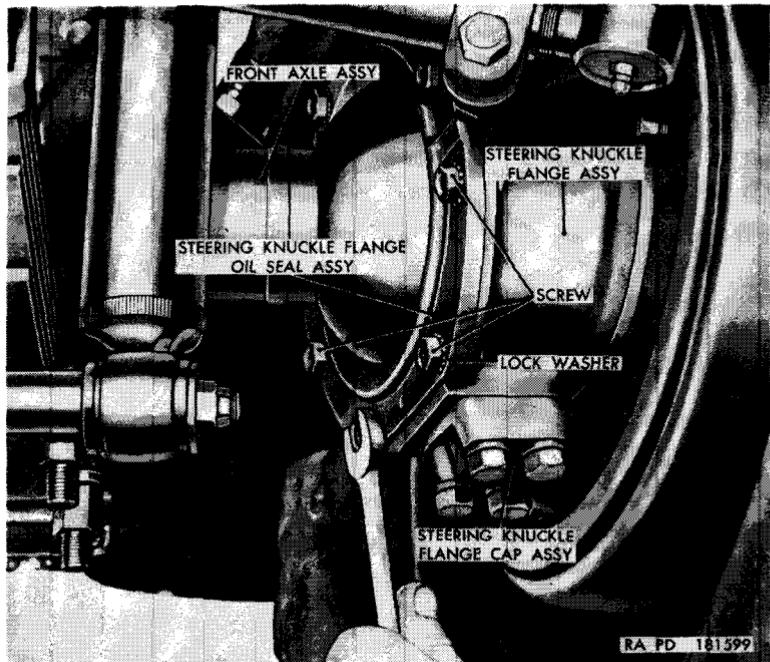

Figure 103. Removing steering knuckle flange oil seal.
a. Removal (fig. 103). Place a jack under the front axle and raise vehicle until the tire clears the ground. Remove the eight screws and lockwashers securing the two halves of the steering knuckle flange oil seal assembly to the steering knuckle assembly. Pull the two halves of the oil seal, with the front axle shaft assembly identification plate (fig. 5) and steering knuckle flange oil seal gasket off the steering knuckle flange.
b. Installation (fig. 103). Apply a little grease to the gasket surface of the steering knuckle flange assembly. Position a new steering knuckle flange oil seal gasket on the steering knuckle flange and aline the mounting holes in the gasket with those in the flange. Position the two halves of the steering knuckle flange oil seal on the flange and secure in position with eight $\frac{5}{16}$ -inch lockwashers and $\frac{5}{16} \times \frac{5}{8}$ screws, positioning the front axle shaft assembly identification plate (fig. 5) on the upper section. Lower vehicle to ground and remove jack.